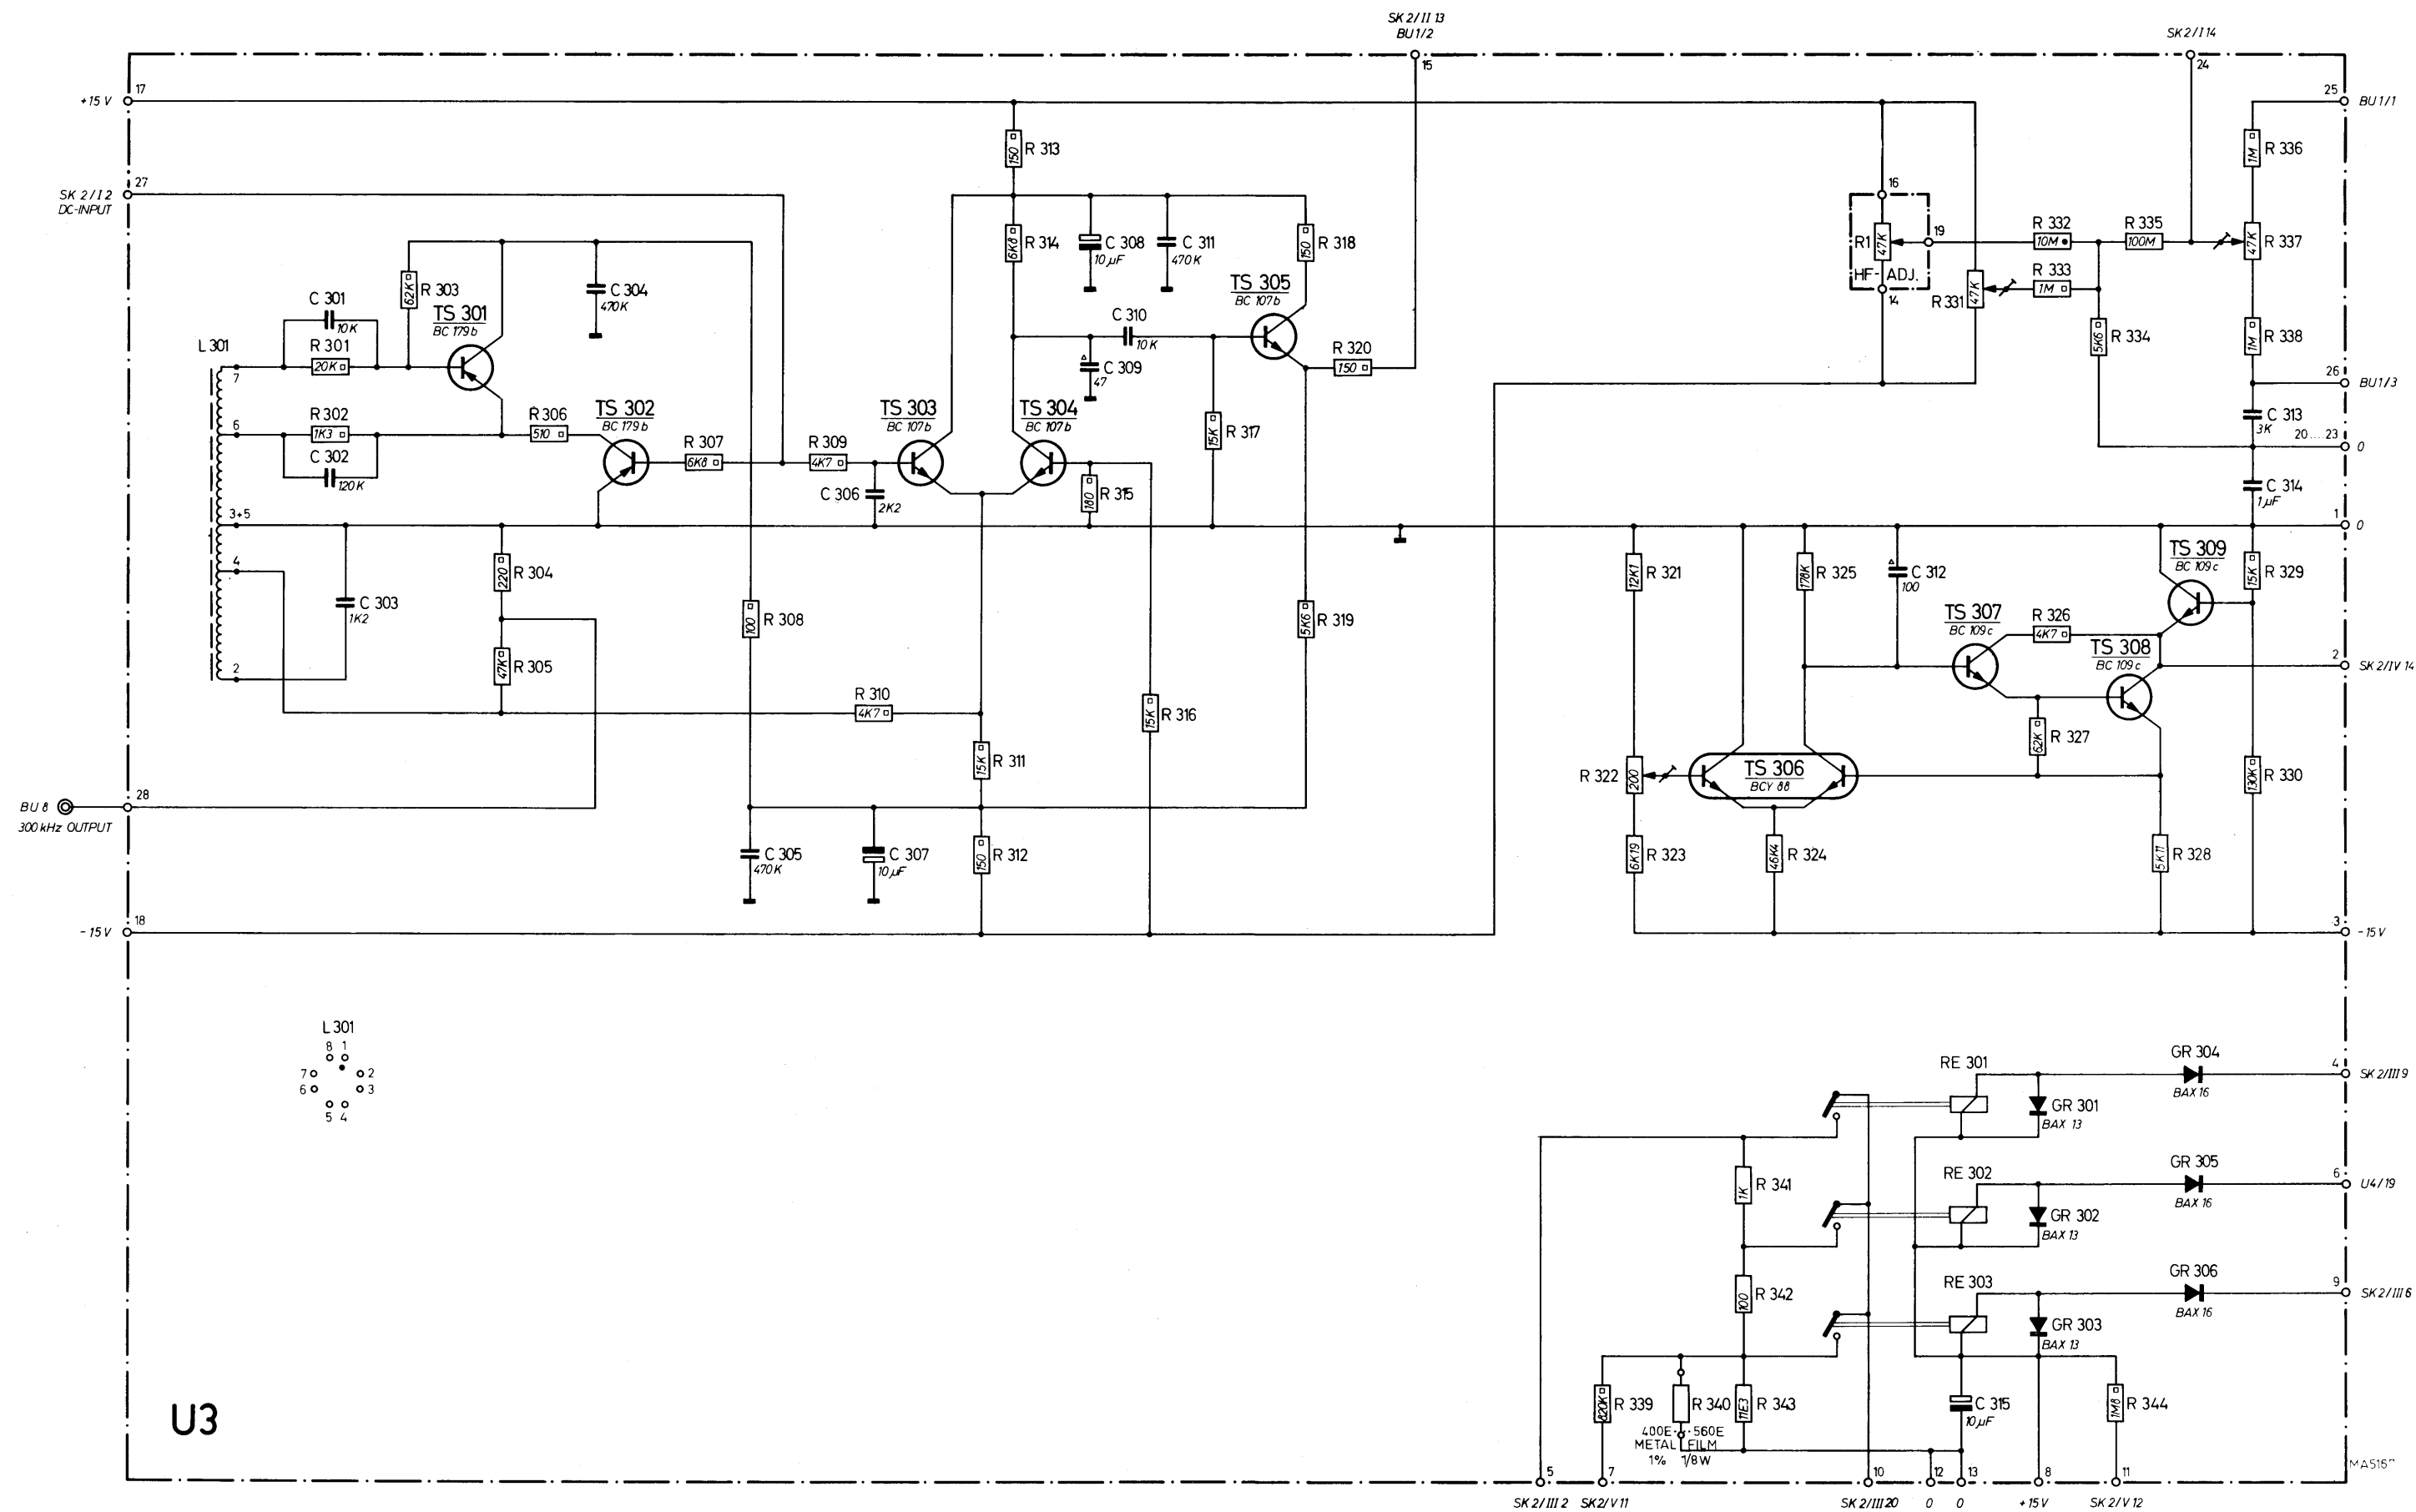

Fig. 23. Circuit diagram of H. F. section
C. 300 kHz OSCILLATOR, CONTROL CIRCUIT, DC CURRENT GENERATOR AND AUTOMATIC CONTROLLED VOLTAGE DIVIDER (U3) Fig. 23